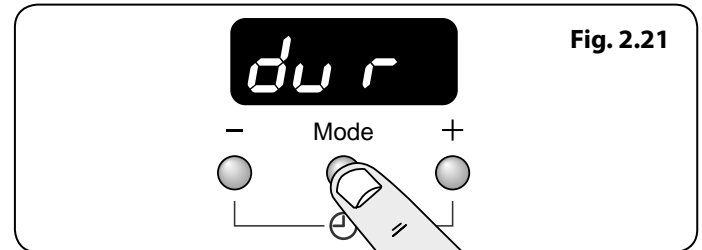

Fig. 2.21
1. Press the mode [Mode] button until the display flashes 'dur' (Fig. 2.21). Then set the 'cook period' using the [+] or [-] buttons.